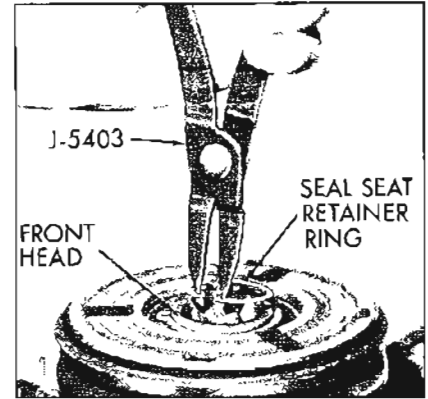

Figure 11-53—Removing or Installing Shaft Seal Seat Retaining Ring
5. Using No. 21 Truarc Pliers (J-5403) take out seal seat retainer ring (see Figure 11-53) from inside front head.
12. Using No. 21 Truarc Pliers (J-5403) reassemble seal seat retainer ring (flat side of retainer ring downward) into hub of front head and engage retainer ring in ring groove (see Figure 11-53). If necessary, retainer ring may be pushed into groove using sleeve